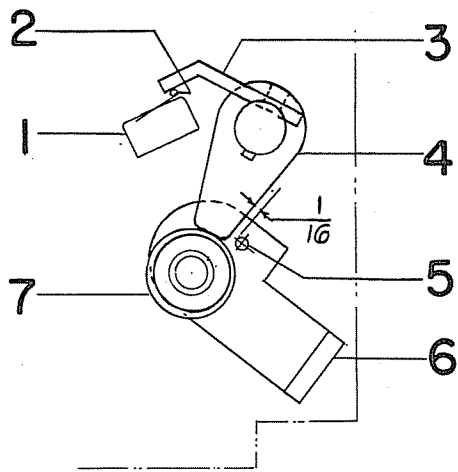

Figure 11 (0137A6038) Latch Checking Switch Adjustment
Referring to Figure 11, rotate the trip latch (4) clockwise by pressing the manual trip button to open the latch checking switch contacts and to release the latch checking switch operating arm (3). Allow the trip latch to reset slowly and determine